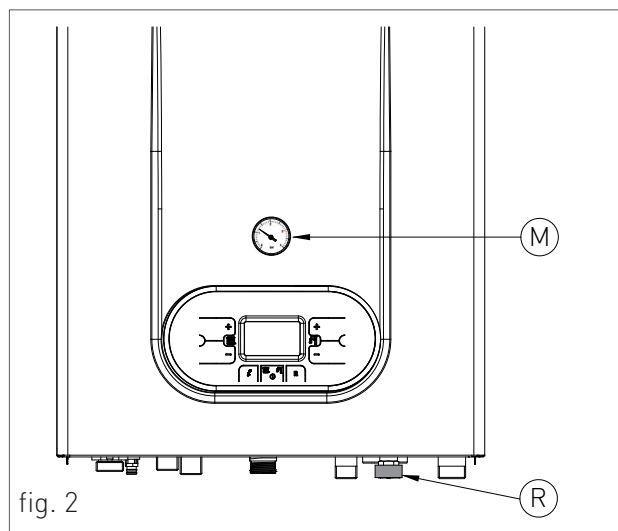
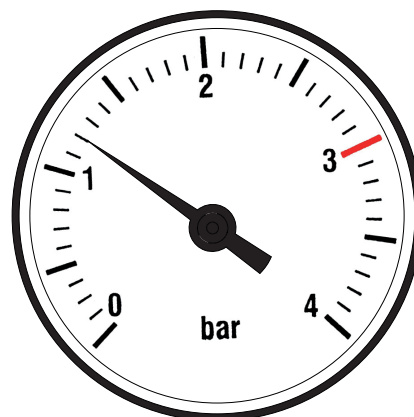

fig. 2
fig. 4
LOCATION (SEE FIG.2 AT CHAPTER 'POSITIONING AND MINIMAL TECHNICAL SPACES').
It is allowed an outdoor installation in a partially protected location (i.e. shelter, balcony) that respect the minimum measure indicated in figure 2.
4. open the feeding tap "R" (fig. 2);
6. use pressure gauge "M" (fig. 2) to make sure that the system pressure reaches 1.2 bar (fig. 4);
7. after performing this operation, make sure that the loading tap "R" (fig. 2) is properly closed.
10. if after performing these operations you observe a decrease of the water pressure inside the system, open once again the loading tap "R" until the pressure gauge indicates the value of 1.2 bar (fig. 4)